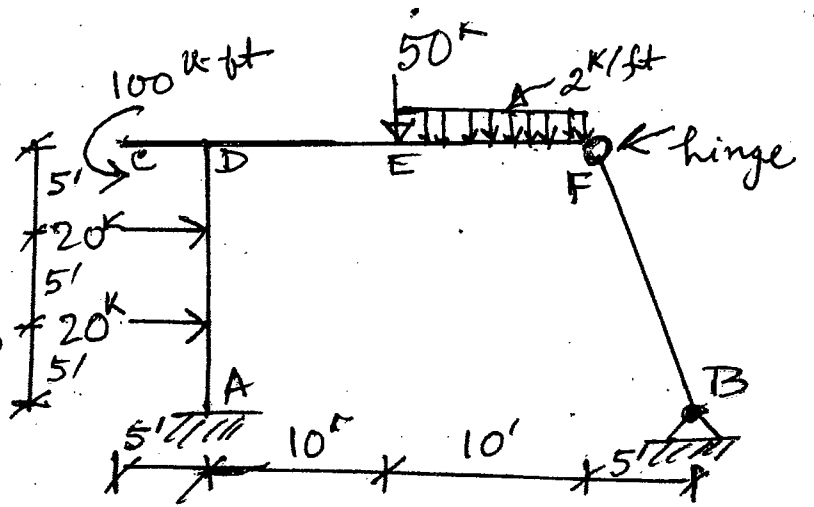

Fig. 2 (Q. no. 2)
2. Draw shear force and bending moment diagrams for the members of the frame shown in Fig. 2. Given: $M_A = 300$ k-ft (anti-clockwise direction).
- (e) Draw the flow net diagram for the problem shown in Fig. 2. Also calculate the seepage loss in 6 month for unit width of hydraulic structure. Given $K = 2.5 \times 10^{-4} \text{ m/sec}$. **(22²/₃)**
Fig. 2 for Question 8(e)